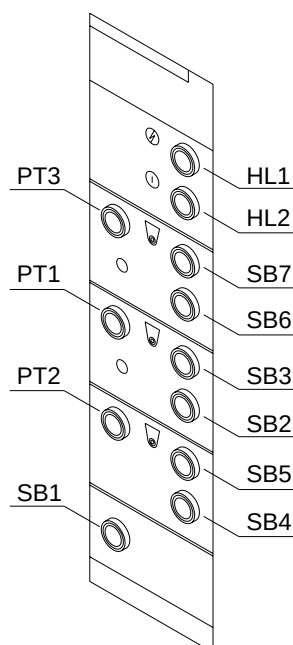

Fig.6.1
- d. Start the vane pump and screw feeder motors by pressing luminous buttons SB3 and SB7 respectively, in that order. (See Fig.6.1)